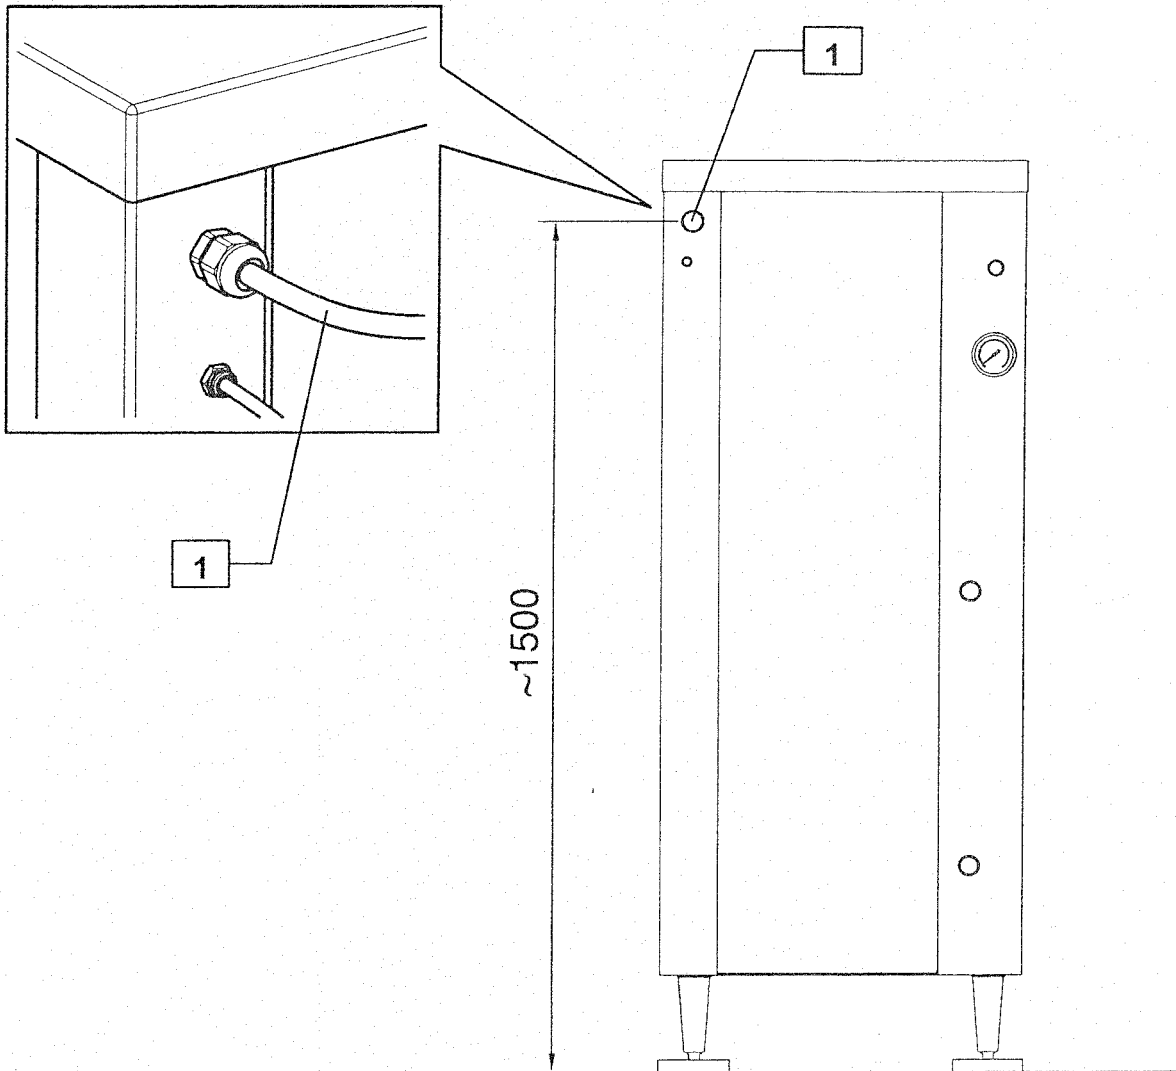

Fig. 4-6 – Electrical connection
In case the connecting cable supplied (Fig. 4-6 pos. 1) was not long enough to reach the connecting point, **DO NOT ABSOLUTELY USE** current extensions, yet replace the whole cable with an adequate one.